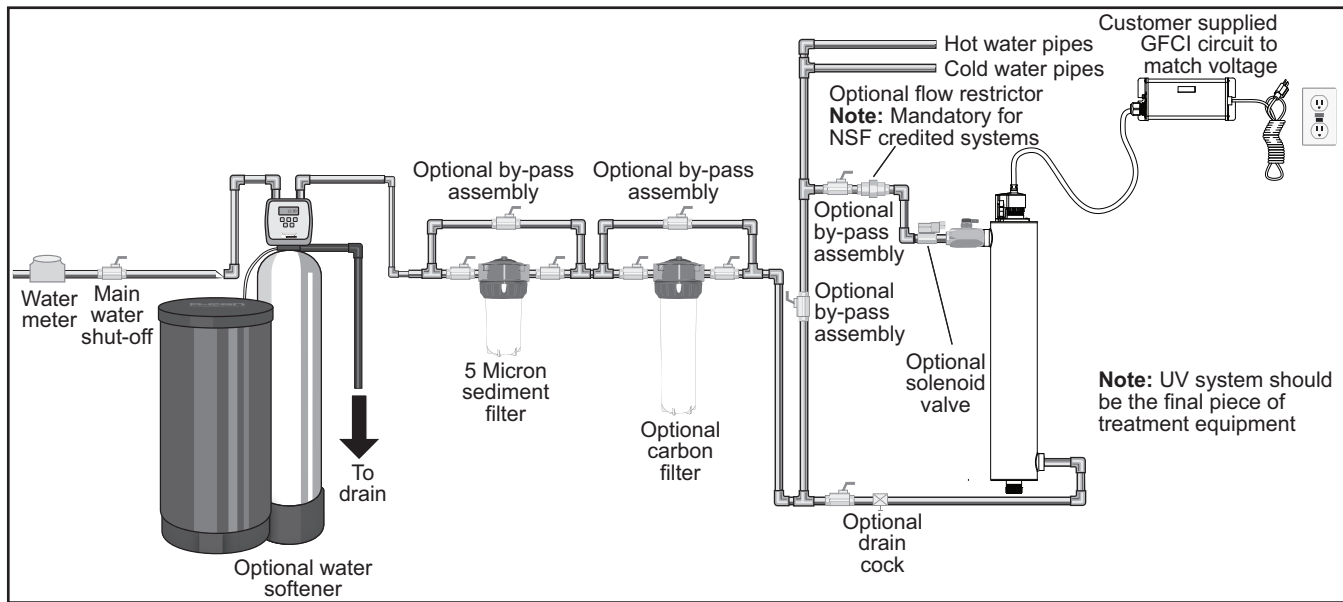

Figure 3 UV Treatment System
1. **Figure 3** shows the installation of a typical UV system and the related components that may be used for the installation. The use of a by-pass assembly is recommended in case the system requires “off-line” maintenance. In this case, it requires a supplementary disinfectant for the distribution system if any water is used during by-pass condition. In addition, during by-pass, the water will NOT be treated and a “DO NOT CONSUME THE WATER” tag should be physically installed on the by-pass assembly until such time as the system is sanitized and returned to service. For more information, refer to **Section 3.2**. If the water is to be consumed while the system is off-line, the water must be boiled for twenty minutes prior to consumption.